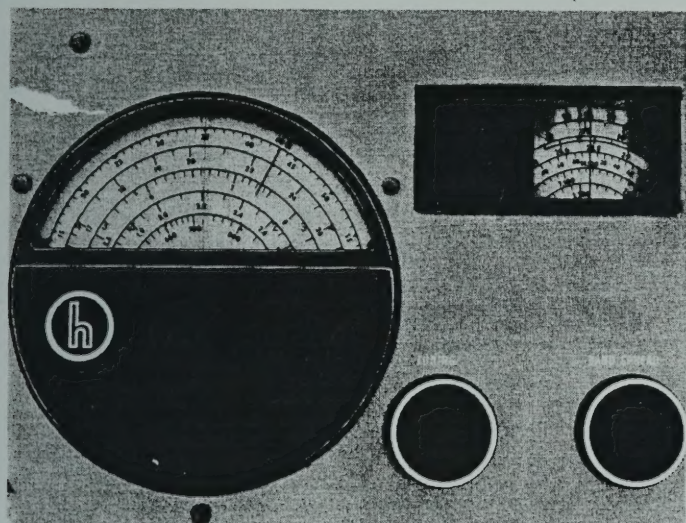
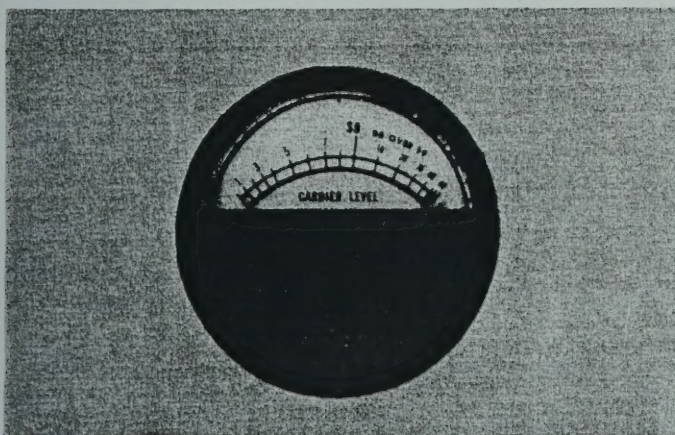

Figure 6.
Figure 7. View showing Carrier Meter
6. Now tune in stations by tuning with the main control knob. (See Fig. 6) As the station is tuned in, the carrier meter needle (See Fig. 7) will move from the left side of the scale to the right. Carefully tune the receiver by causing the meter needle to move as far to the right as possible. At this point the receiver is properly tuned to the station.
8. The frequency calibration on the main tuning dial for the broadcast band is shown on the scale at the bottom of the dial. (See Fig. 6). This scale as all other scales is calibrated in kilocycles and tunes over the broadcast band from 540 to 1650 kc.